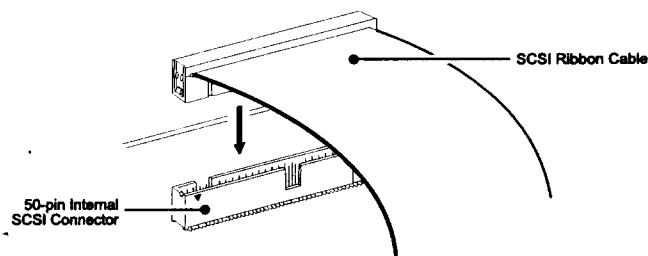

FIGURE 3- Connecting the 50-pin internal flat ribbon cable
- Attach the internal SCSI cable by matching the connector marking "▼" or cable stripe with the board connector J1, pin 1 (shown in FIGURE 3).